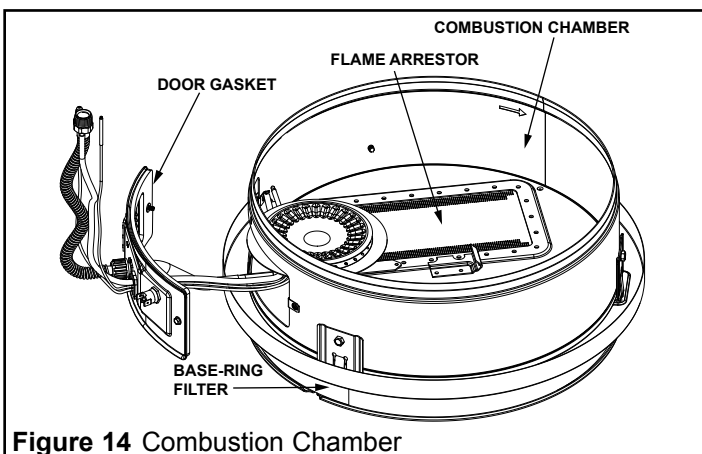

Figure 14 Combustion Chamber
2. Use a vacuum cleaner/shop vac to remove all loose debris in the combustion chamber (see Figure 14). Use compressed air to clear any dust or debris that may have accumulated in the flame-arrestor.
prior to installation (see Figure 14).
4. Inspect the door gasket and make sure there is no fiberglass insulation between the gasket and the combustion chamber (see Figure 14).